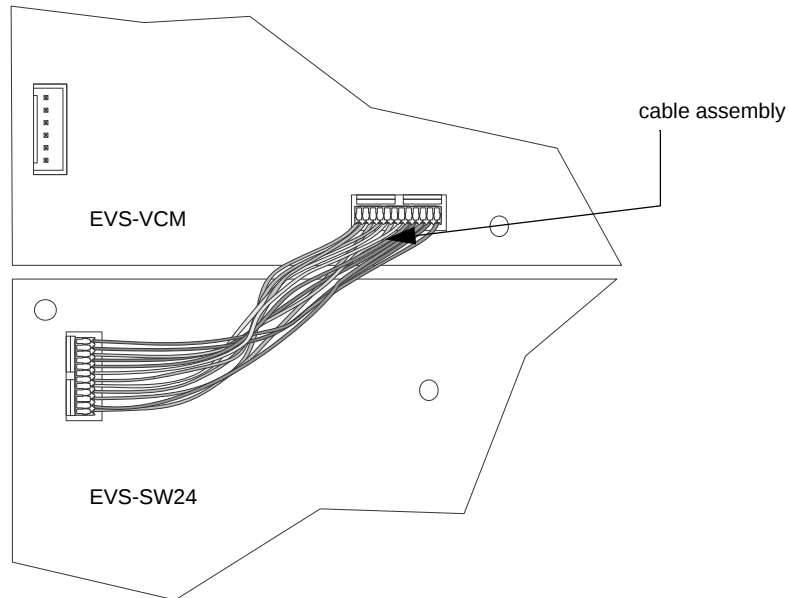

Figure 4.5 Connection for EVS-VCM to EVS-SW24
5. Connect one end of the wiring assembly (P/N 130398, supplied) to the EVS-VCM and the other end to the EVS-SW24 as shown in Figure 4.5.